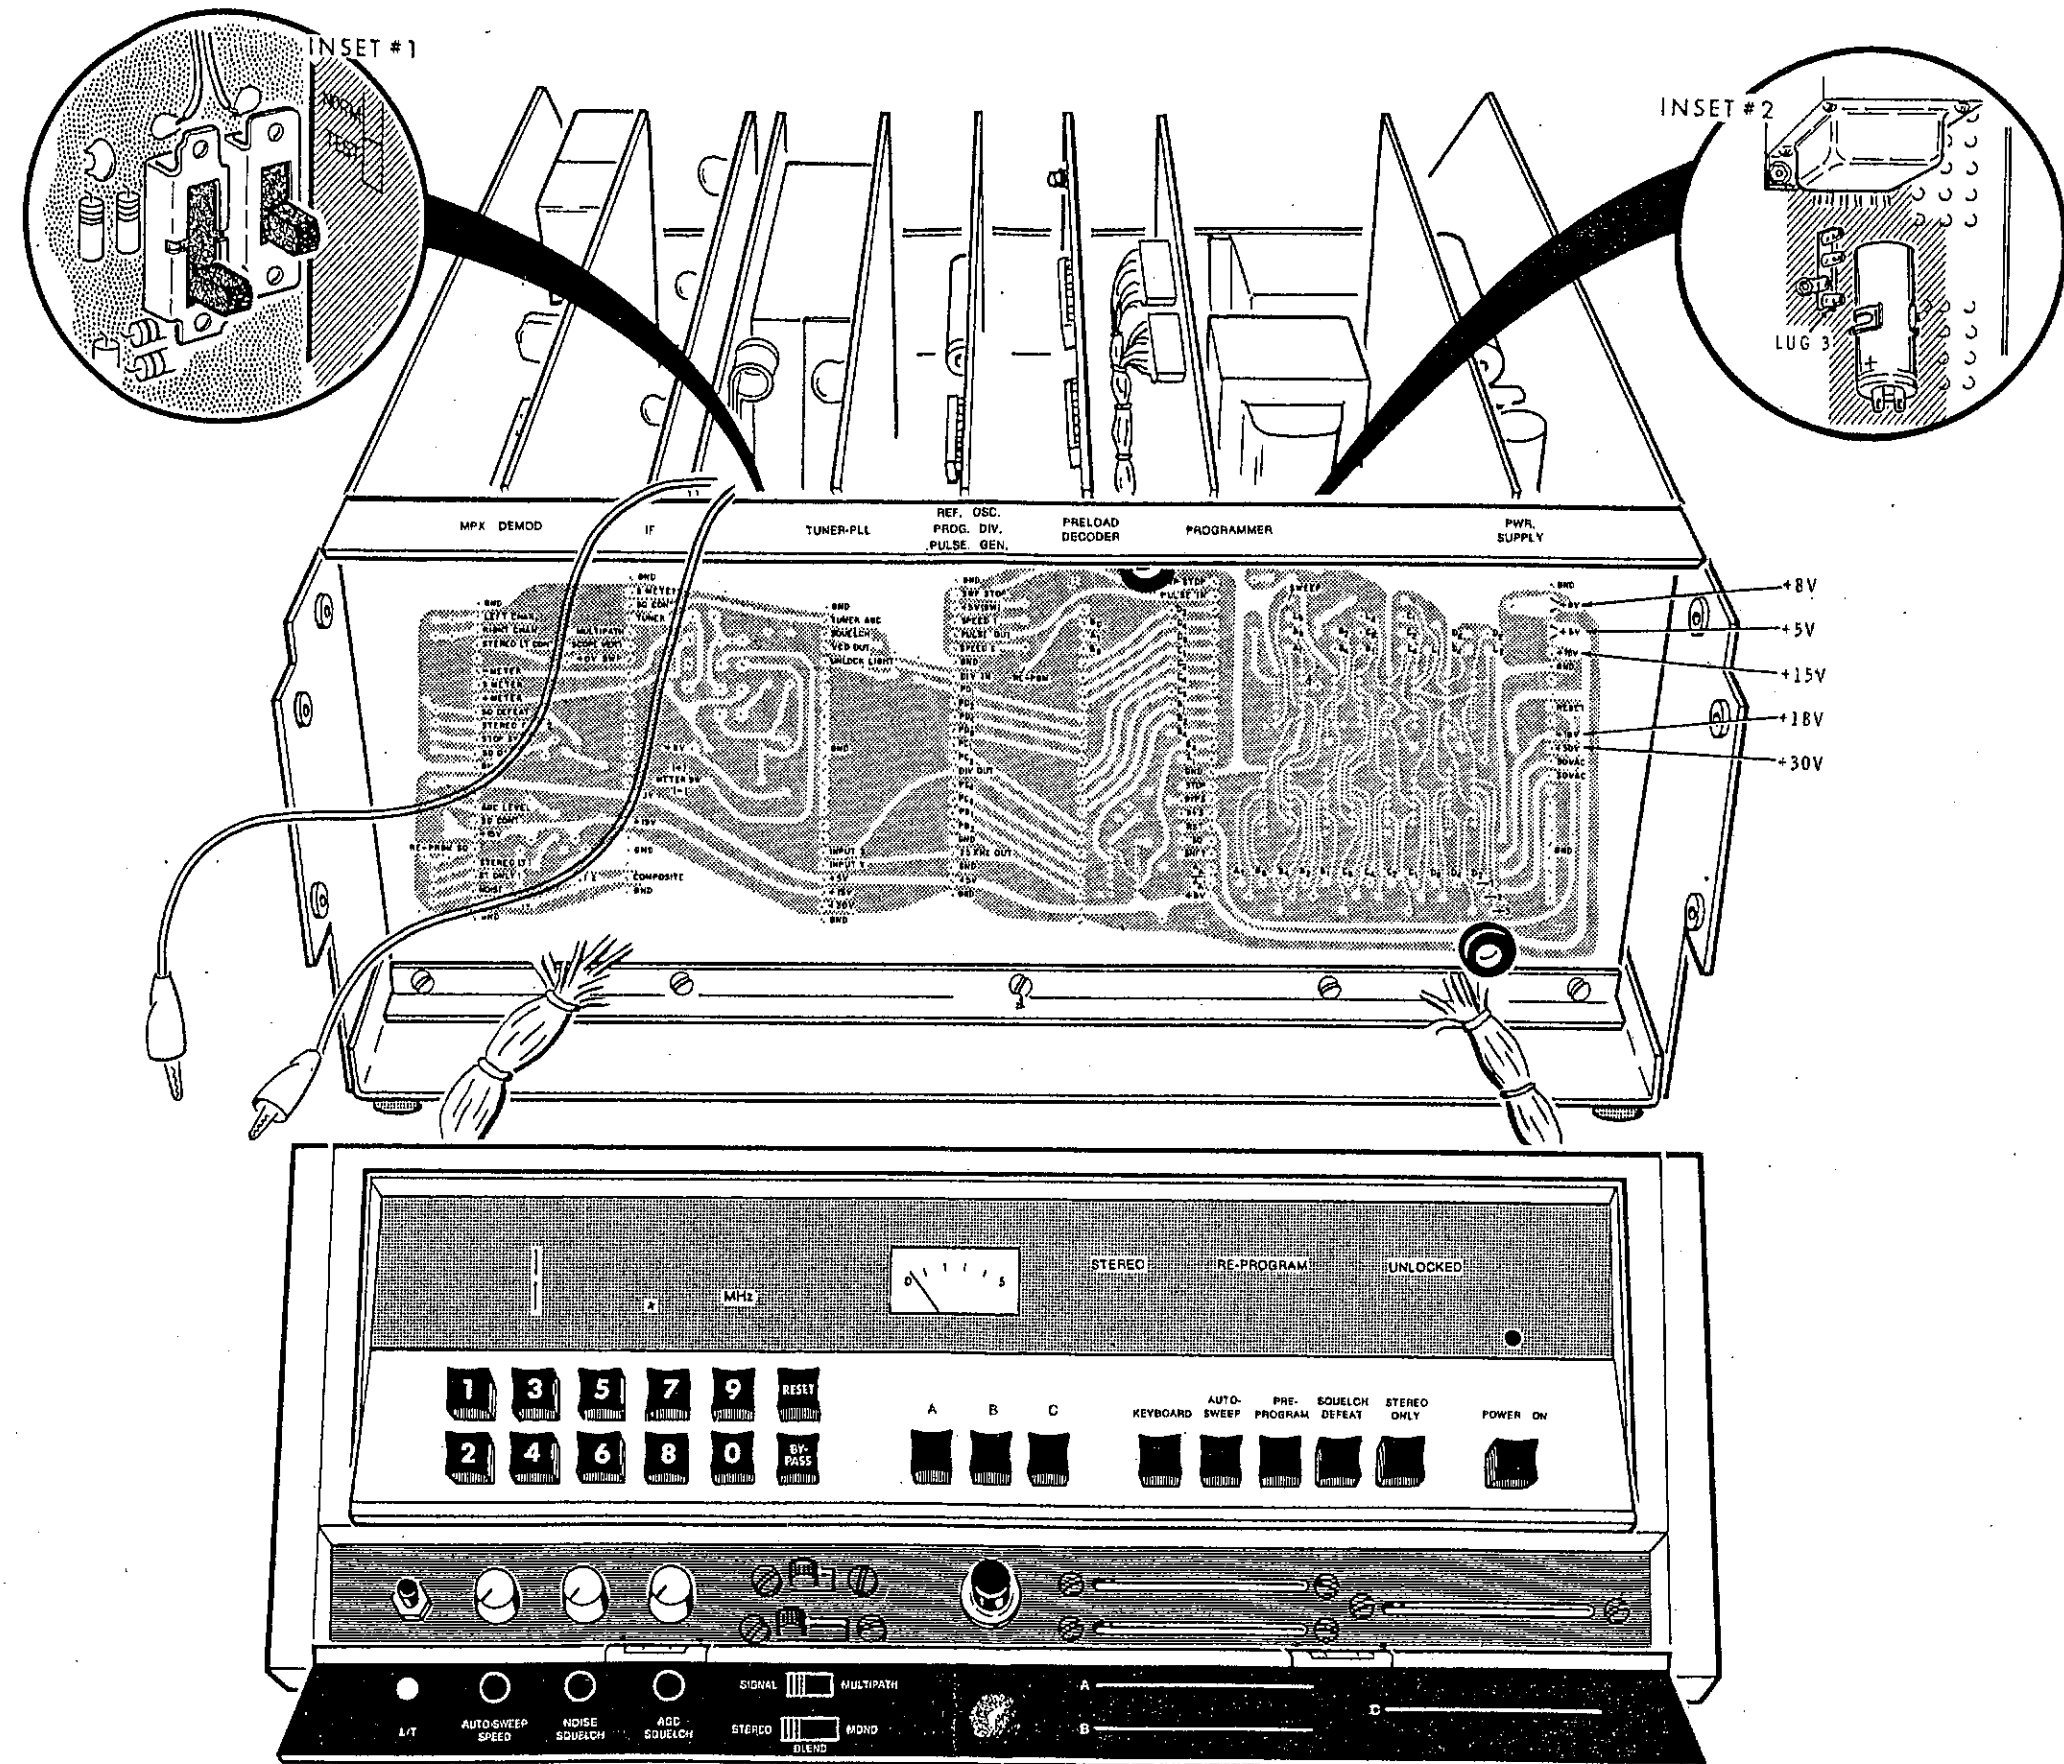

Figure 1-1
Refer to Figure 1-1 (fold-out from Page 122) for the following steps.
- (✓) Refer to Figure 1-1 and connect the red test lead to lug 3 of the terminal strip shown in inset drawing #2. The meter should read the following.
- (/) Press the front panel POWER ON button to the ON (in) position. The one (1) and the decimal point should now light.
- (/) Refer to Figure 1-1 (fold-out from Page 122) for test locations and make the measurements in the following chart.